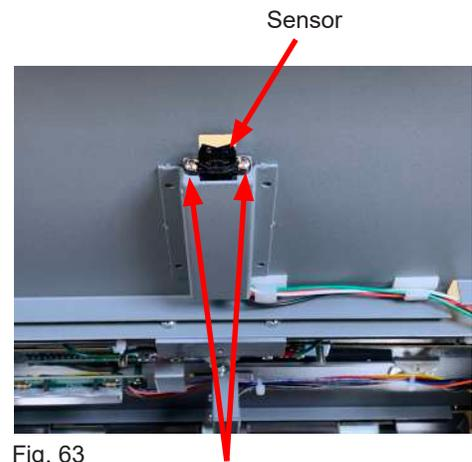

Fig. 63
4. The sensor is located under the in-feed extension tray. Remove the photo-eye mounting screws (Fig. 63).